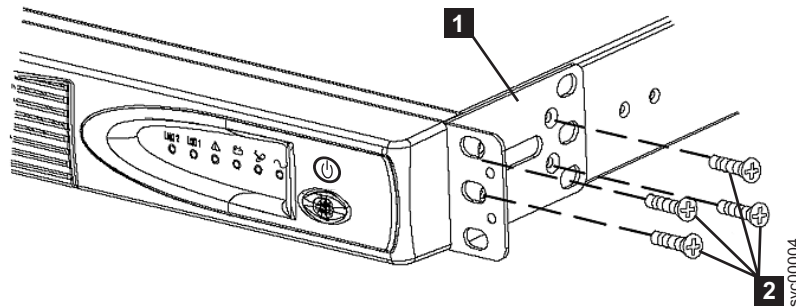

Figure 195. Installing the support rails for a 2145 UPS-1U into the rack
2. Attach the long side of a mounting bracket **1** to each side of the 2145 UPS-1U using four M3 × 6 screws **2** for each bracket. See Figure 195.